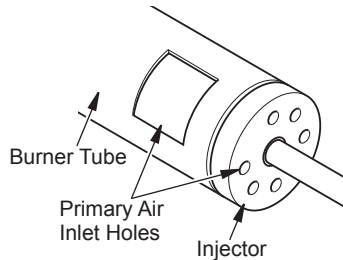

Figure 22 - Burner and Injector Holder
2. Inspect burner, pilot and primary air inlet holes on injector for dust and dirt (see Figure 22).